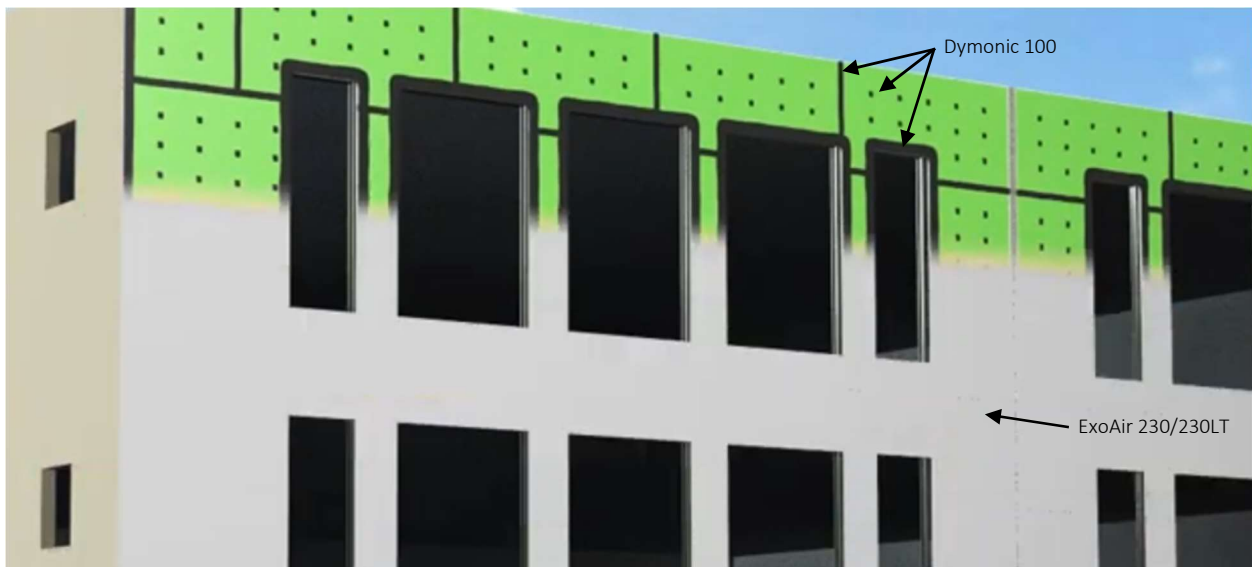

Fig. 29
- 6. ExoAir 230/230LT Application – **Figure 29**.